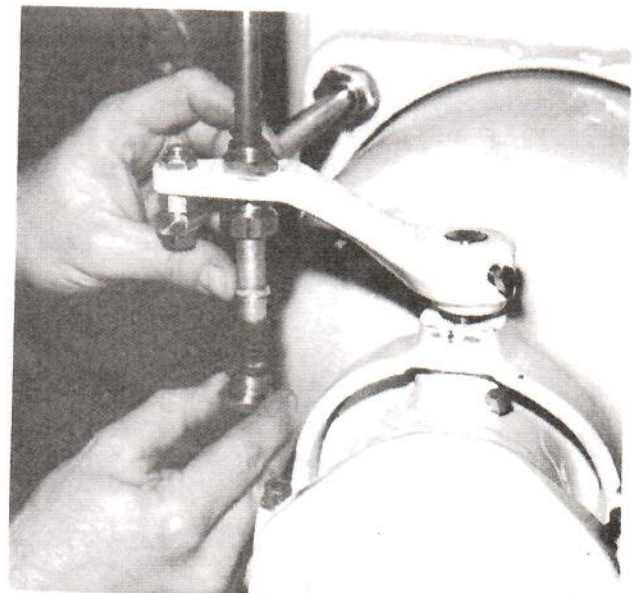

Figure 4
- 4 (For 43C" - Clamp - Type Cable) When using the optional adapter for "C"-type cable, screw the adapter body into the tiller arm from the bottom until an even amount of thread is showing above and below the arm. Attach the locknut finger tight. Guide the cable through the adapter, allowing the cable hub to pass completely through. Squeeze the locking wire into the hub groove with pliers, and pull the cable up into the adapter body (Figure 4). Run the packer nut over the cable and tighten it finger tight in the adapter body.